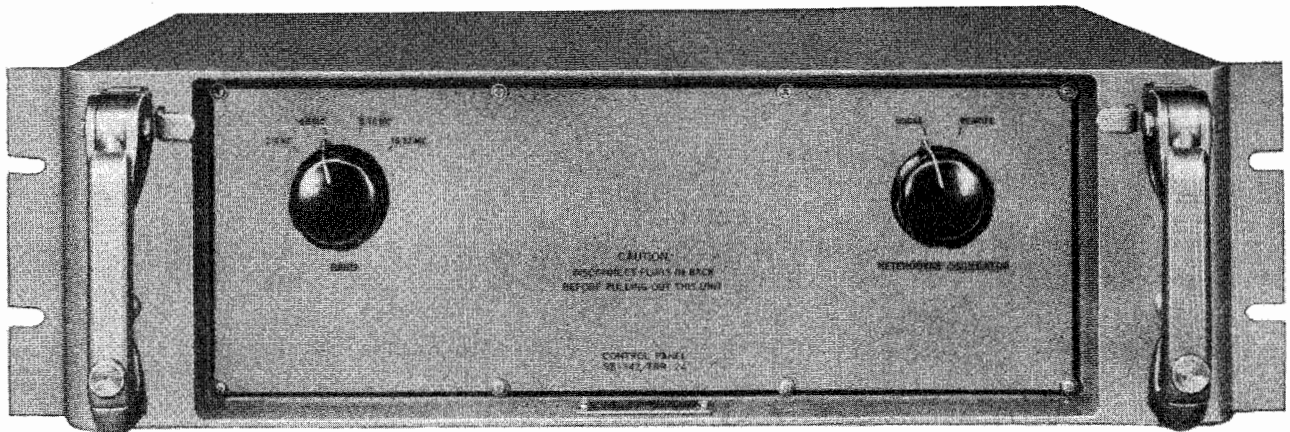

Figure 1-14. Control Panel SB-142/FRR-24
(7) CONTROL PANEL SB-142/FRR-24. (See Figure 1-14).—Control Panel SB-142/FRR-24 provides a means of selecting which one of the four Amplifier-Converter units shall be placed in an operative condition and also selects the source of oscillator excitation i.e., local or remote. In the local condition, the Control Panel makes oscillator voltage from the selected Amplifier-Converter available for patching into any other Amplifier-Converter unit of the same frequency range in another bay. In the remote condition,